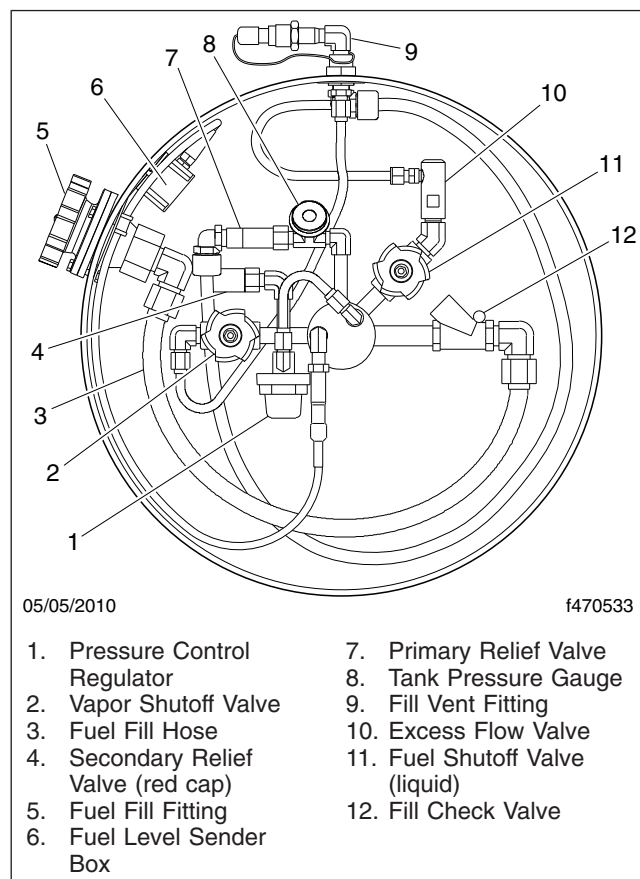

Fig. 8, Fuel Tank Plumbing Components
See **Fig. 8** for plumbing component locations.
2. Inspect the fuel level sender box (**Fig. 8**, Item 6) for signs of leaks or damage. Ensure that the retainer clips are installed on the mounting ears.
2. Check the fuel tank pressure gauge (**Fig. 8**, Item 8) to ensure that pressure is within the normal range of 120 to 150 psi (827 to 1034 kPa).